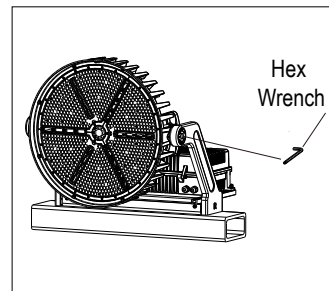

Figure 5
4. Use a hex wrench to loosen the adjustment screw for angle adjustment (Figure 5).